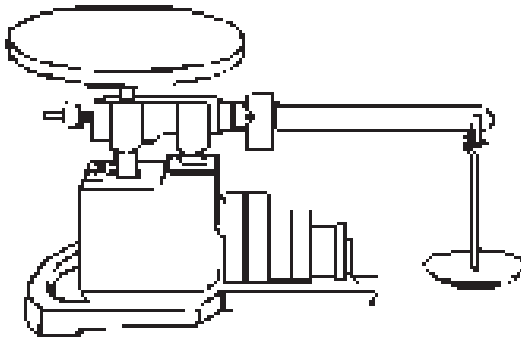

Figure 10. Assembled Field Test Scale.
12. Place attachment weight hanger in loop and weights on weight rack as shown in Figure 10.
The Field Test Scale is now ready for use and should look like Figure 10.